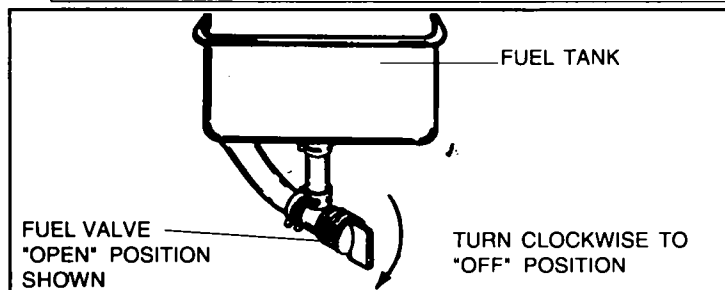

Figure 2
- Be sure fuel valve (if so equipped see Figure 2) is open.
⑤ If your engine is equipped with a CLIMATE GUARD air cleaner, make sure scoop is positioned correctly: